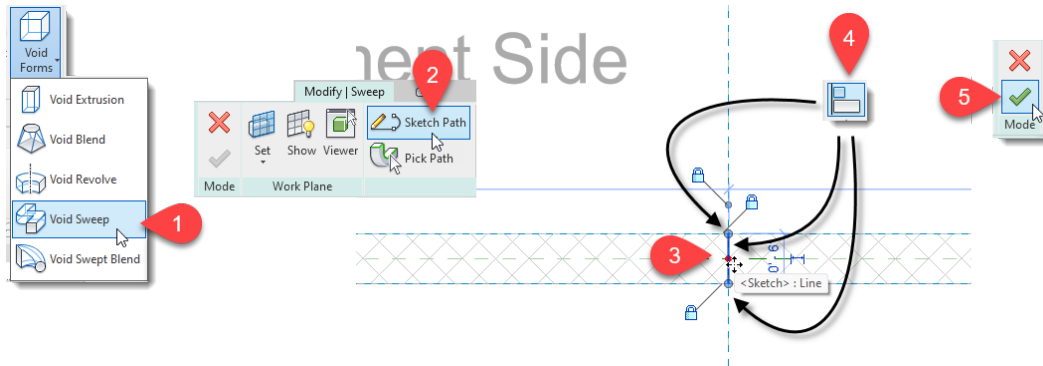

Figure 49—Sketch the path of the void sweep across the center of the wall
1. On the Create tab, click the Void Forms drop-down and choose: **Void Sweep** (see item 1 in Figure 49).